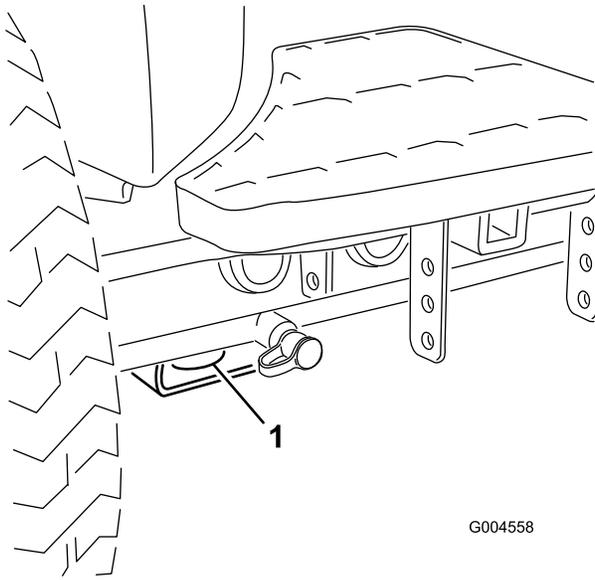

Figure 43
- Front—the hole in the rectangular pad, under the axle tube, inside each front tire (Figure 43).